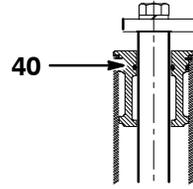

Fig. 7
- v. Remove the lower piston retaining ring (100). Inspect it for damage or wear, and replace it with a new one if necessary.
- w. Remove the piston (110) from the retaining rod (80) and inspect it for damage or wear. Replace it with a new one if necessary.
- x. Remove the two old o-rings (70) and (120) in Parts from inside and outside the piston. Replace the o-rings with new ones.
- z. Put the piston (110) back onto the lift rod (80). Position it against the upper retaining ring.
- aa. Snap the lower piston retaining ring (100) back into its groove, between the bottom of the piston and the end of the lift rod.
- ab. Carefully re-insert the lift rod (80) into its cylinder. Push the rod straight down as far as it will go.
8. Service the guide sleeve (Fig. 7):